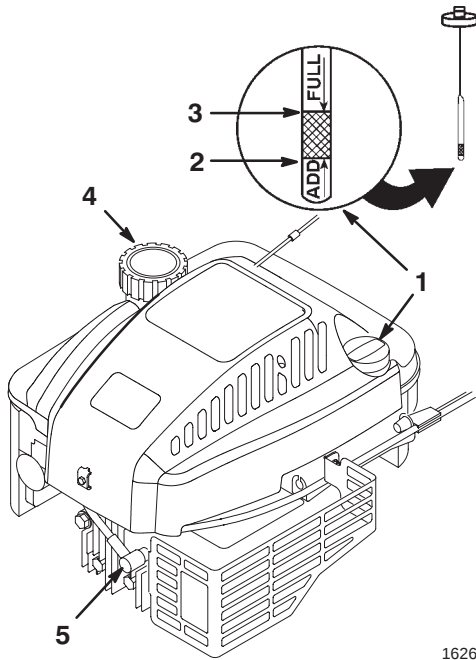

Figure 7
Before each use, ensure that the oil level is between the *Add* and the *Full* marks on the dipstick (Fig. 7).
2. Clean around the dipstick (Fig. 7).
6. Read the oil level on the dipstick (Fig. 7).
1. Clean around the fuel tank cap (Fig. 7).